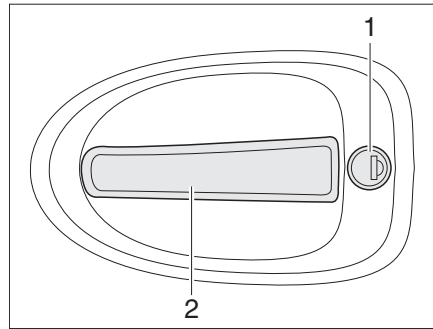

Fig. 42 Door lock of driver's door, outside
- Insert the key into locking cylinder (Fig. 42,1) and turn until the door lock is unlatched.
- Pull on the handle (Fig. 42,2). The door is open.
- Insert the key into locking cylinder (Fig. 42,1) and turn until the door lock is engaged.